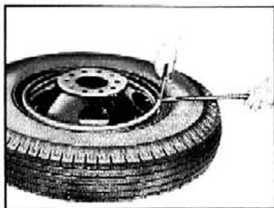
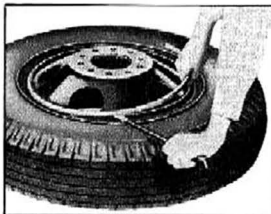

Fig. 69—Raising End of Clamp Ring
Fig. 70—Removing Tire Clamp Ring
3. Starting at the split in the clamp ring, raise its end out of the rim gutter using a screwdriver and the tire iron (fig. 69). Then remove the clamp ring by prying it out of the gutter with the tire iron, moving progressively around the rim (fig. 70).